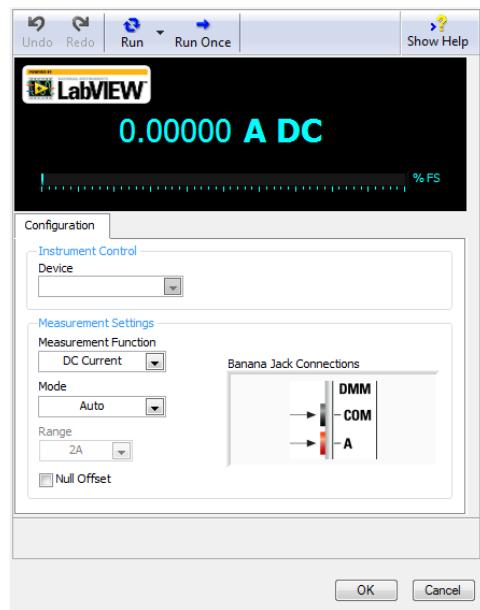

Figure 3.6: Multimeter VI Properties Menu
18. Add NI ELVISmx Digital Multimeter.vi to the “Current” case (Figure 3.6), and setup the measurement as shown (need to add a NI ELVIS block to each case, i.e. current, resistance, and voltage). The NI myDAQ has an internal shunt resistor to measure current through the analog-to-digital converter.